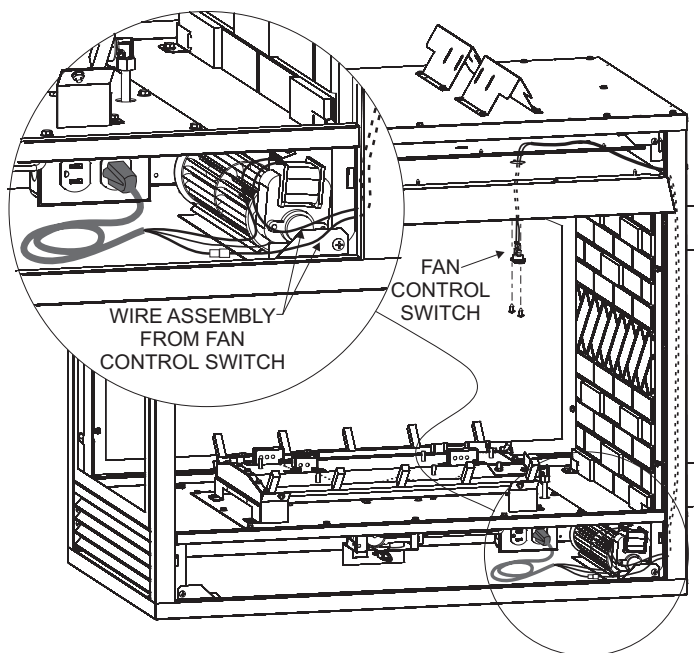

Figure 22
6. Next, find the fan control switch and wire assembly. Feed the wires through the hole at the top of the firebox, and secure the fan control switch with two (2) #6 screws (provided). The fan control wires will slide down between the firebox and outer wrap near the blower assembly. **See Figure 22.**